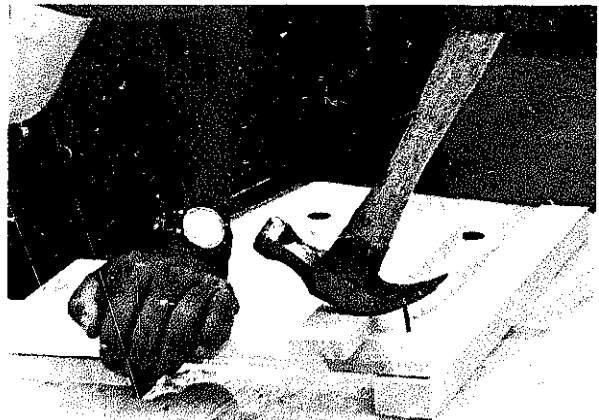

Fig. 11-34 Using a hammer to withdraw a nail.
1. If the head is above the surface, slip the claw of the hammer under the head of the nail and pull the handle to an almost vertical position, A and B, figure 11-34.
2. If the head is below the surface, place the claw against the nail head as in A, figure 11-34, and strike the face of the hammer with a soft-face hammer. This will force the claw down below and around the nail head.
3. When the hammer has pulled the nail to the position shown at B, figure 11-34, release the hammer and place a piece of scrap wood so that the claw can again be placed on the nail and on top of the scrap wood as shown at C. Then withdraw the nail by pulling the hammer handle to the position shown at B.